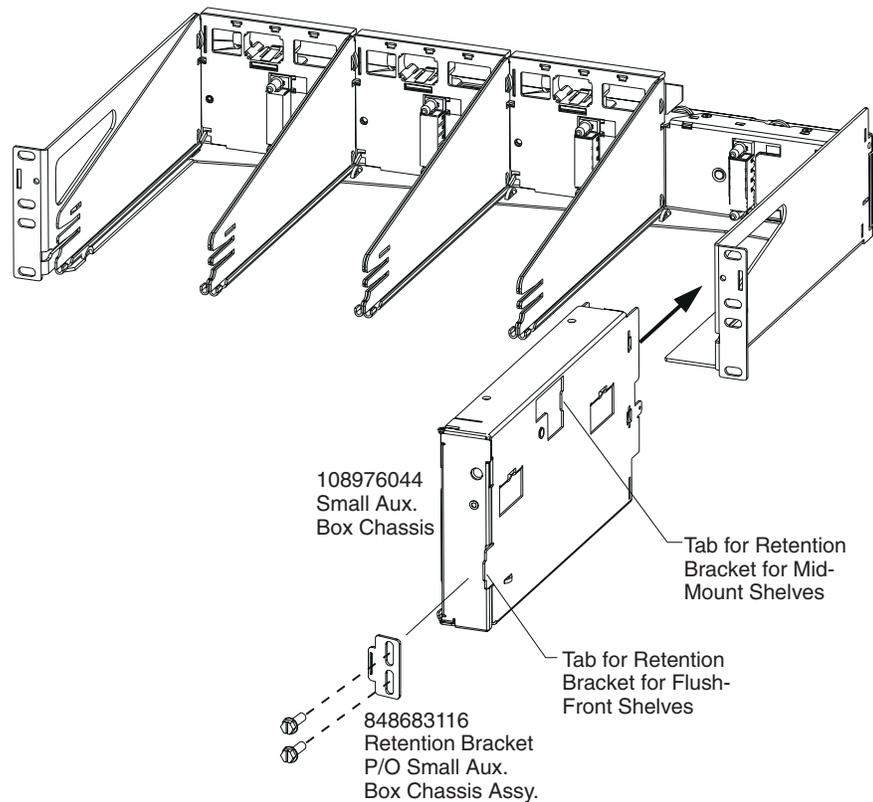
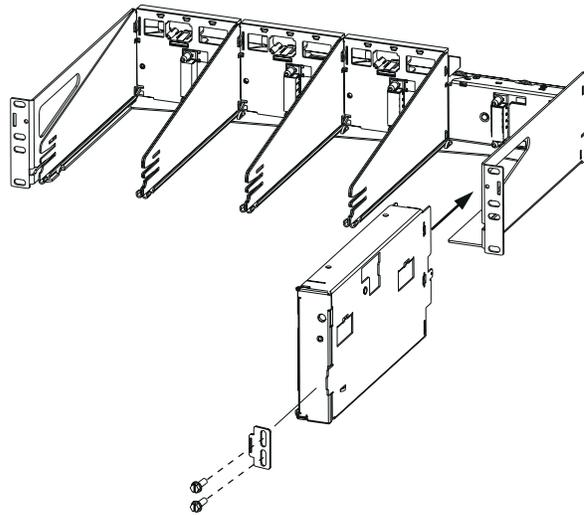

Figure 5-13: Securing the Aux Box with the Retention Bracket
Figure 5-14: ES710A / ES710AD
Note the two Retention Tabs on the Aux Box shown in Figure 5-13. The ES700A and the ES701A shelves will use the flush mount tabs while the ES700B and the ES701B shelves will use the mid-mount tabs. Secure the Aux Box to the shelf by placing the retention bracket through the required tab as shown in Figure 5-13 and placing the 12-24 screws provided through the tab.
4. Note the two Retention Tabs on the Aux Box shown in Fig 5-13. The ES700A and the ES701A shelves will use the flush mount tabs while the ES700B and the ES701B shelves will use the mid-mount tabs. Secure the Aux Box to the shelf by placing the retention bracket through the required tab as shown in Figure 5-14 and placing the 12-24 screws provided through the tab.